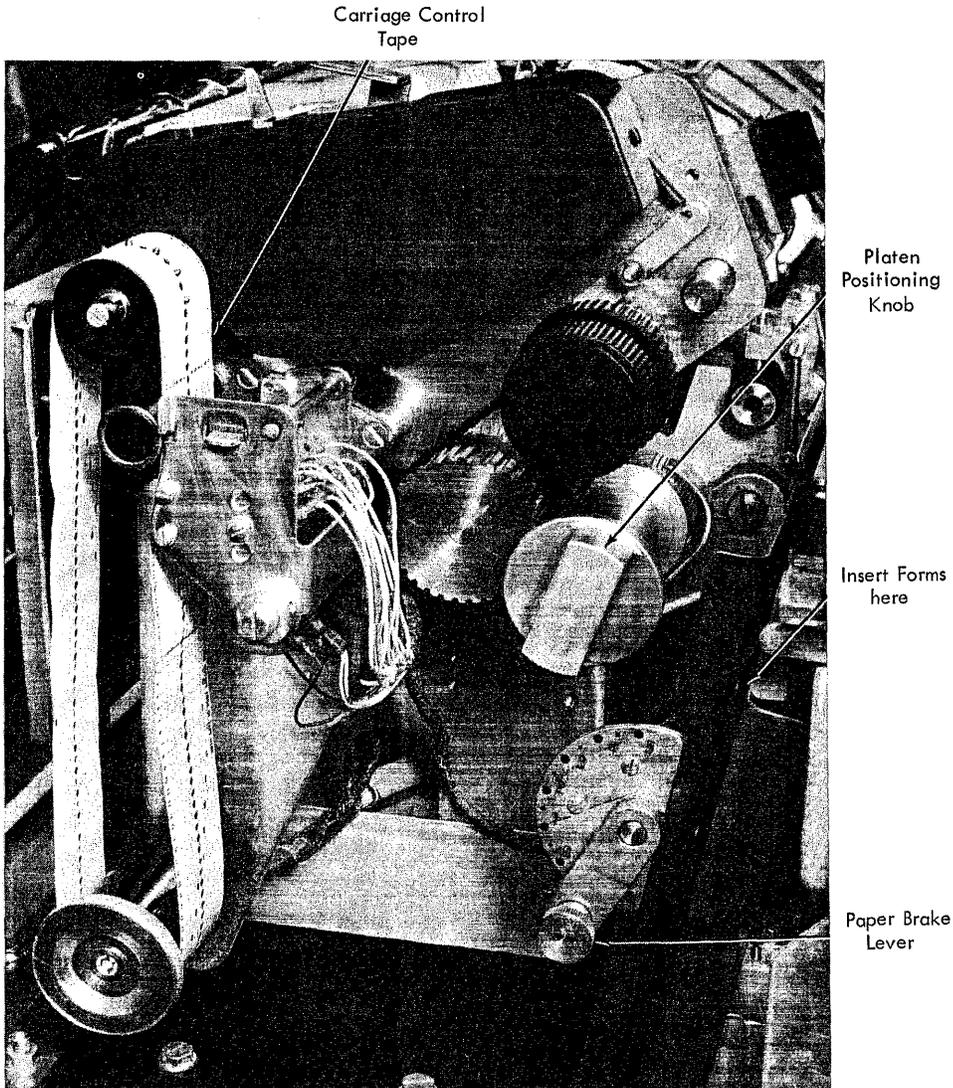

Figure 6. Manual Controls – Left Side of 1443
Paper Brake. (Figure 6.) This control is located on the left side of the lower forms guide. It has six positions: 0 to 5. Rotating the adjusting control clockwise increases the amount of drag exerted on the form.
8. Raise the paper form up and to the left of the printer so that – after the form is inserted – about one or two pages would extend beyond the Print-Line indicator. Insert the form from the left side into the opening just in front of the Paper Brake lever (refer to Figure 6).